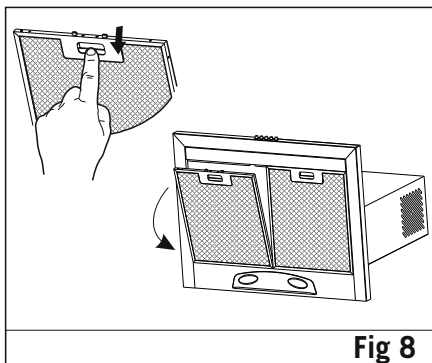

Fig 8
- Aluminum cartridge filter holds dust and grease in the air. Extractor hood should never be used without aluminum cartridge filter. **Figure 8**